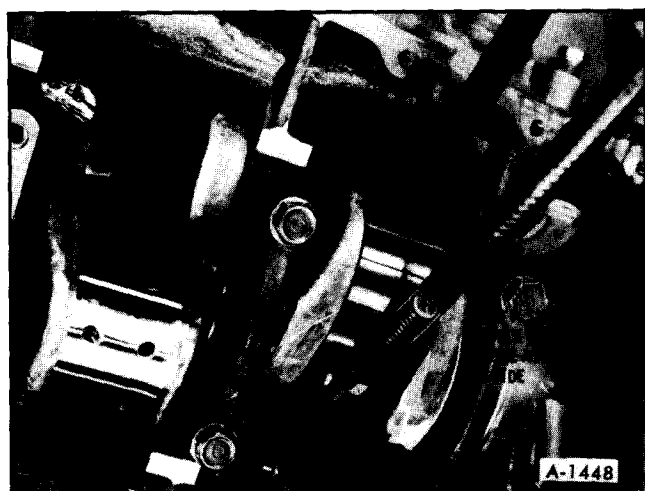

Figure 41—Connecting Rod Bolt Guide
4. Install guide hose over threads of rod bolts. This is to prevent damage to bearing journal and rod bolt threads. See Figure 41.
When measuring piston for size or taper, measurement must be made on skirt 90° from piston pin hole (with the piston pin removed). See Figure 41.
1. Install connecting rod bolt guide hose over rod bolt threads. (See figure 41).